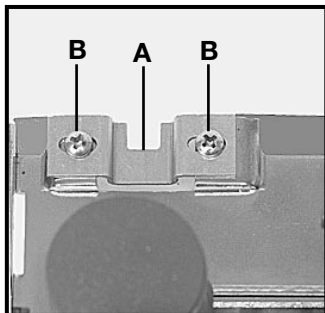

Fig. 9
A line of cut indicator (A), Fig. 9, is provided at the front of the base. The left edge of the notch in this indicator is used to follow a line when making 90° cuts. The right edge of the notch is used to follow a line when making 45° cuts. This indicator may be adjusted as follows:
3. Loosen two screws (B), Fig. 9.
5. Align left edge of notch in indicator with straight edge and tighten two screws (B), Fig. 9.
Clamp work on a rigid support such as a bench or saw horses. See Fig. 14. Mark the line of cut on the work. Be sure cut-off line is beyond end of support to the left only enough to allow proper operation of the telescoping guard. Place front edge of saw squarely on work before starting motor. Sight the cutting line with the line of cut indicator (A), Fig. 9. Back saw up slightly and start motor. Move saw forward keeping the edge of line indicator parallel to line of cut.